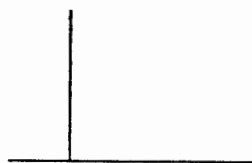

Fig. 23
12. *Perpendicular Lines* are at right angles to each other; thus, a vertical line is perpendicular to a horizontal line but perpendicular lines are not necessarily vertical and horizontal. In Fig. 23 the lines are perpendicular to each other.